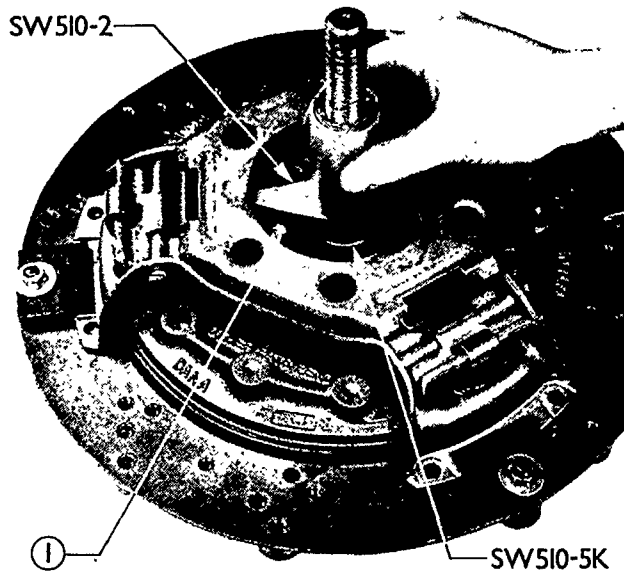

Figure 40
11. Place the Gauge Spacer, SW510-5K, on the spindle and install the Release Lever Gauge, SW510-2, as shown in Figure 40. Check the height of each of the three release levers by rotating the Release Lever Gauge, SW510-2, over each lever. A slight drag should be felt when the foot of the gauge is rotated across each release lever end.